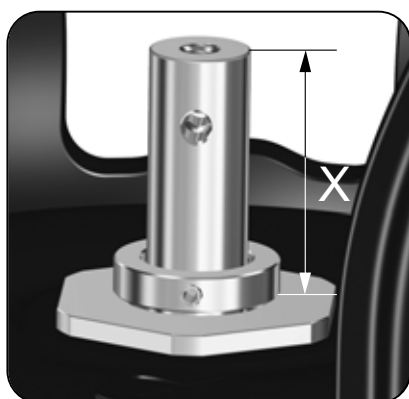

Fig. 7 Height measurement X
15. Install the shaft seal (105) on the shaft (51) and press it home against the pump head cover (2).
17. Check that the height X is 71 mm \pm 2. See fig. 7.